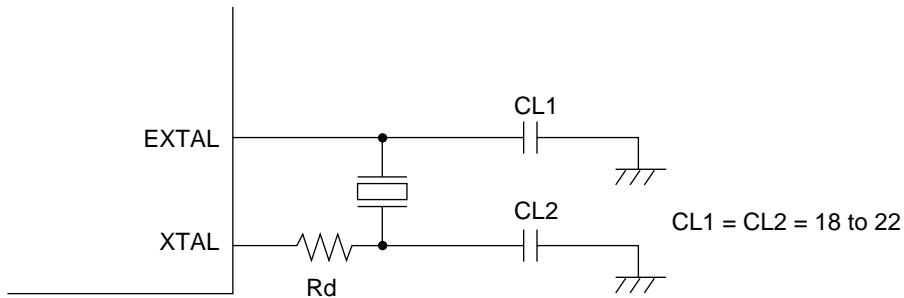

Figure 4.2 Example of Crystal Resonator Connection
Circuit Configuration: Figure 4.2 shows the method of connecting a crystal resonator. Use the damping resistance (R_d) shown in table 4.1. An AT-cut parallel-resonance type crystal resonator with the same frequency as the system clock (CK) should be used. Load capacitors (C_{L1} , C_{L2}) must be connected as shown in the figure.